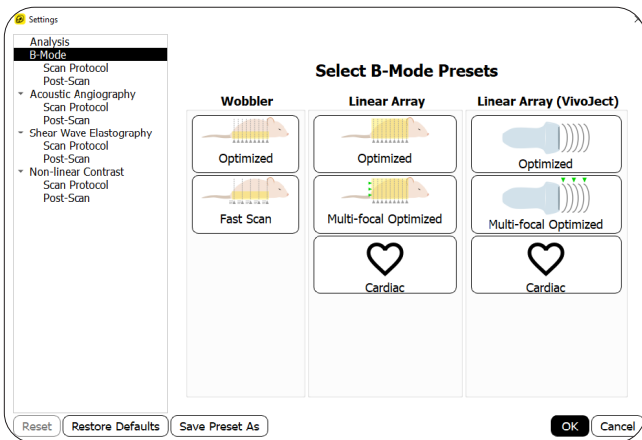

Figure 3: Preset selection menu in SonoEQ. VivoJect presets are in the column on the right.
- Select one of the Linear Array (VivoJect) presets (Figure 3).